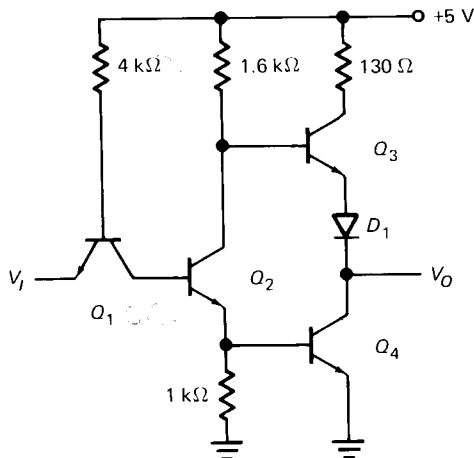

Fig. 4-21
- 4-1. In Fig. 4-21 a grounded input means that almost the entire supply voltage appears across the 4-k $\Omega$  resistor. Allowing 0.7 V for the emitter-base voltage of  $Q_1$ , how much input emitter current is there with a grounded input? The supply voltage can be as high as 5.25 V and the 4-k $\Omega$  resistance can be as low as 3.28 k $\Omega$ . What is the input emitter current in this case?